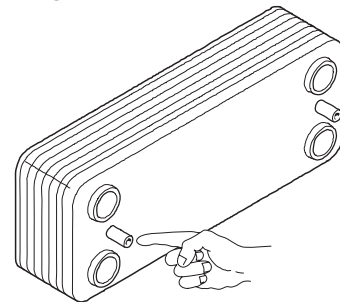

Figure 6.4
**Warning:** When reassembling the exchanger be sure to put the off center location/securing pin indicated in Figure 6.4 towards the left side of the boiler.